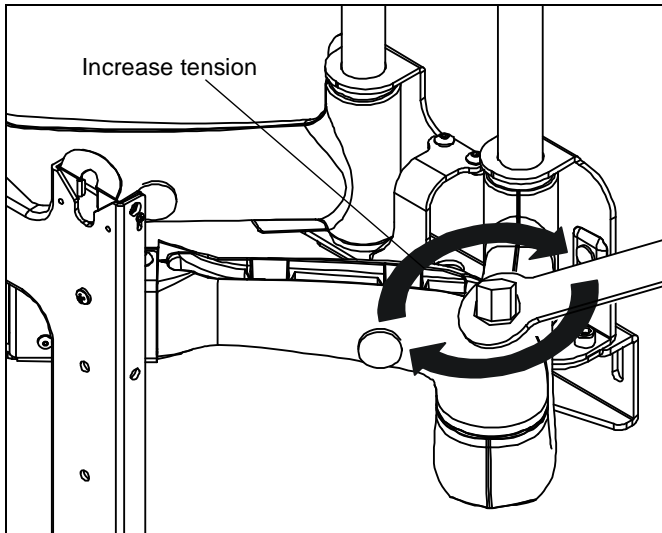

Figure 13
- Use the adjustment wrench (L) provided with the mount, and turn adjustment insert clockwise to increase swing arm tension (See Figure 13) or counterclockwise to reduce swing arm tension. (See Figure 13)